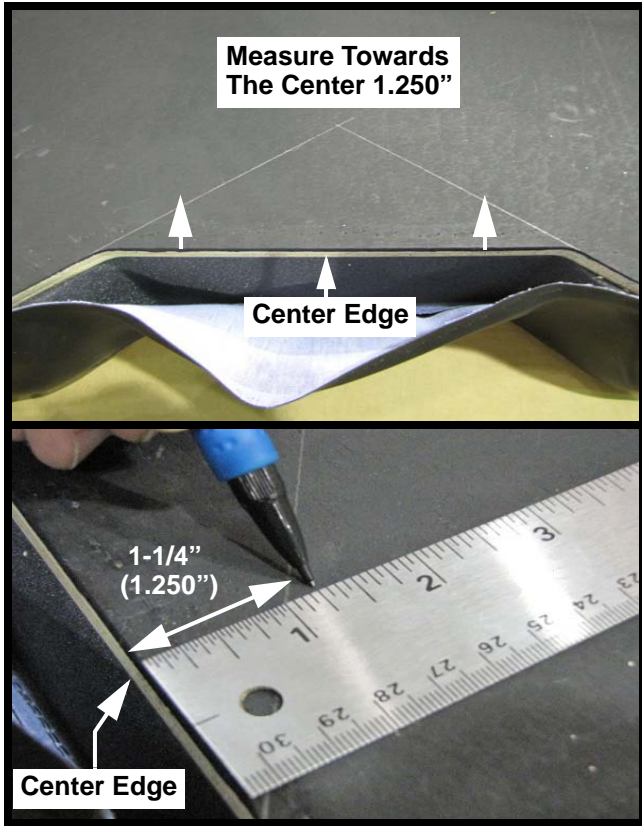

FIGURE 7
9. From the center edge of the 1/2" plywood seat base, measure towards the center 1-1/4" (1.250") on each side and make a mark as shown in Figure 7.